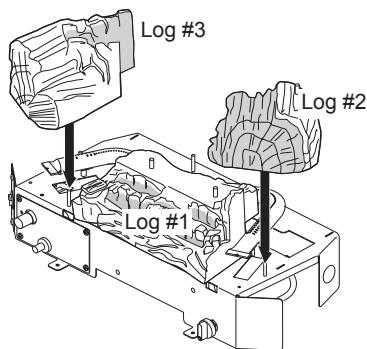
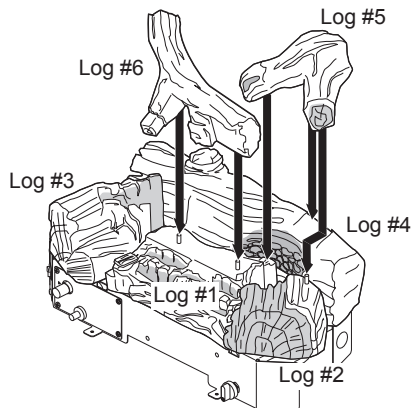

Figure 20 - Installing Log #2 (Right) and
Figure 22 - Installing Log #5 (Right) and
2. Place log #2 to the right of log #1. Log #2 will wrap around right end of rear burner and sit on log alignment screw (see Figure 20).
3. Place log #3 on left side of base and onto alignment screw to right of rear burner (see Figure 20). Log #3 will wrap around left end of rear burner.
5. Place back of log #5 on notch in log #4 (as shown in Figure 22), across back part of log #1 and onto pin on log #2 (see Figure 20, page 18 and Figure 22).
6. Place log #6 onto two pins on log #1 (ember bed) and rest back of log #6 on back log #4 (see Figure 22).